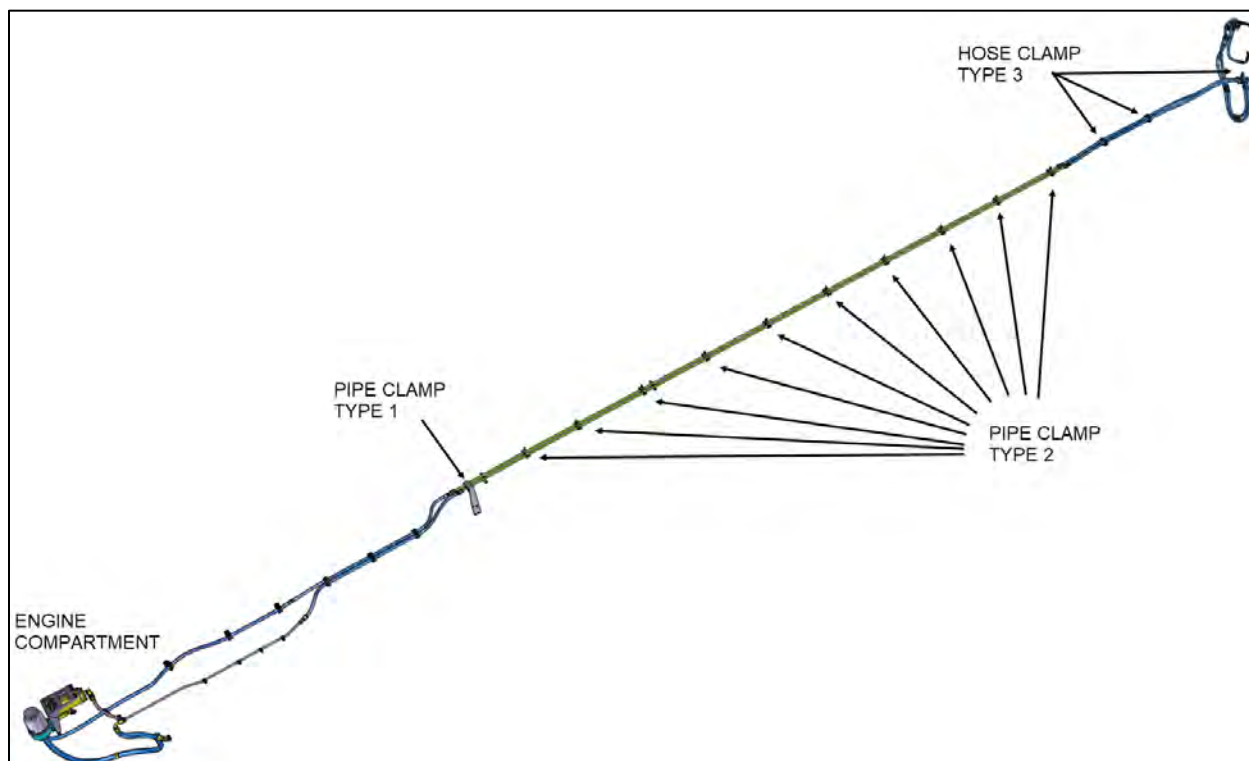

FIGURE 6: PIPE CLAMPS LOCATION & TYPE
8. Loosen all the pipe and hose clamps (Figure 6) from the cut up to the front of the vehicle.